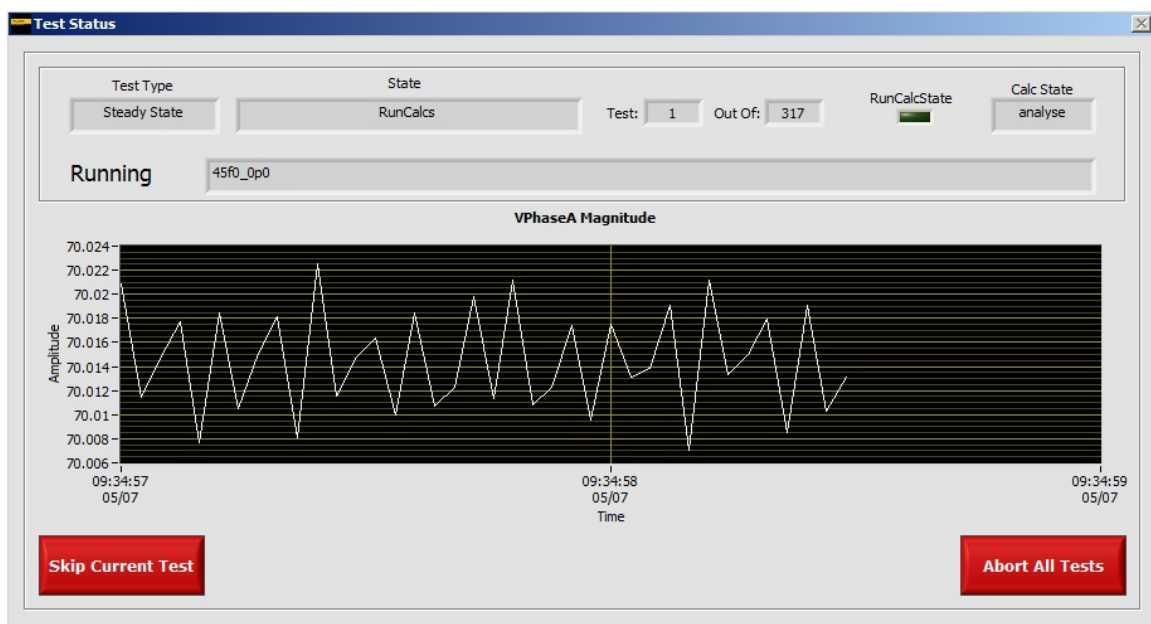

Figure 5-3. Test Status Window
6. Monitor the test status screen as the automated test runs (see Figure 5-3).